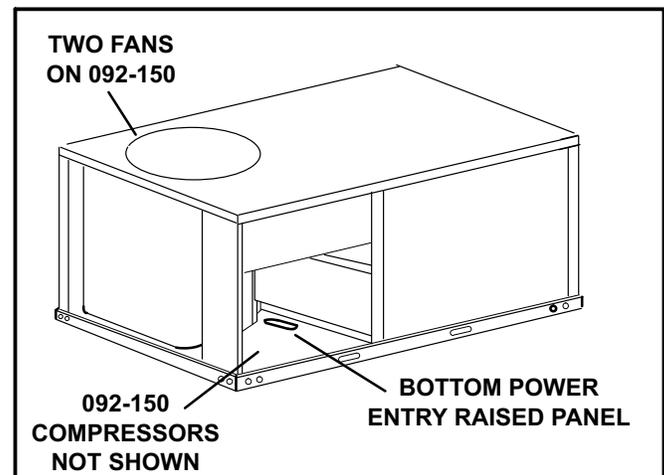
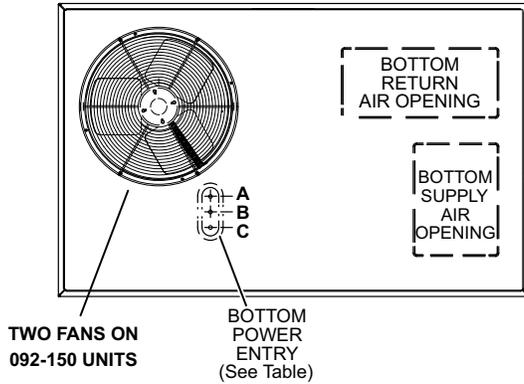

FIGURE 1
FIGURE 2
- 3- Locate the raised surface in the base pan. See figure 1. The raised surface contains three small dimples that can be used to mount a chassis punch or hole saw. Use a chassis punch or hole saw to create holes in the raised surface. See figure 2.